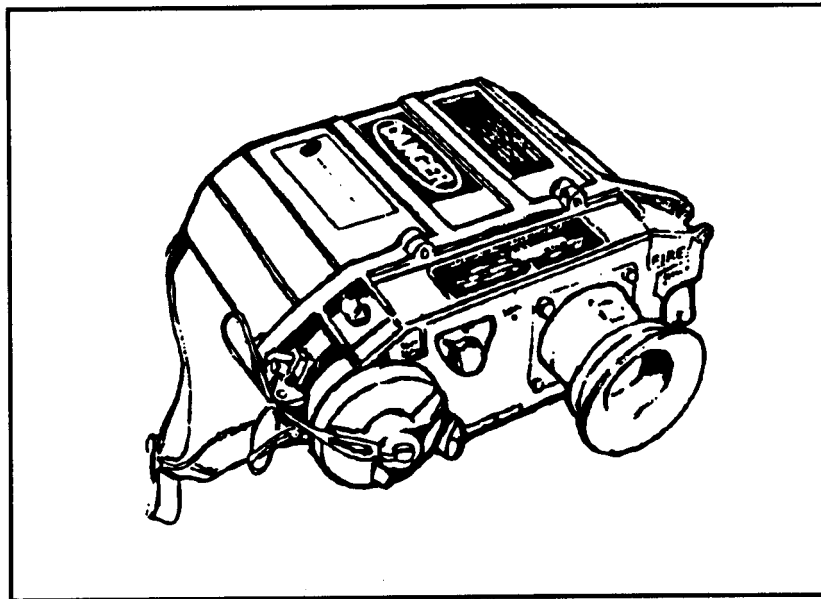

Figure 2-29. Laser observation set, AN/GVS-5.
d. **Laser Observation Set AN/GVS-5.** Depending on the mission, snipers can use the AN/GVS-5 to determine the range to the target. The AN/GVS-5 (LR) (Figure 2-29, page 2-36) is an individually operated, hand-held, distance-measuring device designed for distances from 200 to 9,990 meters (with an error of plus or minus 10 meters). It measures distances by firing an infrared beam at a target and by measuring the time the reflected beam takes to return to the operator. It then displays the target distance, in meters, inside the viewer. The reticle pattern in the viewer is graduated in 10-mil increments and has display lights to indicate low battery and multiple target hits. If the beam hits more than one target, the display gives a reading of the closest target hit. The beam that is fired from the set poses a safety hazard; therefore, snipers planning to use this equipment should be thoroughly trained in its safe operation. (See TM 11-5860-201-10.)